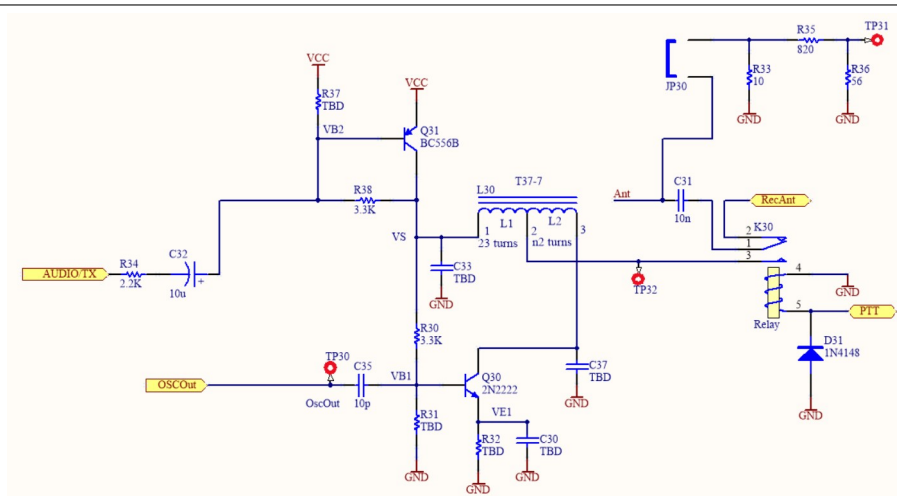

Figure 5: Schematic of the Amplitude modulator of TRC-11.
1. Most of the amplitude modulator is already built as given in Fig. 5. It uses a PNP transistor (Q31) to modulate the supply voltage of the transmitter amplifier (Q30). The only missing components are R34 and C32. Mount and solder them. They connect the input of the modulation amplifier to the microphone amplifier output.